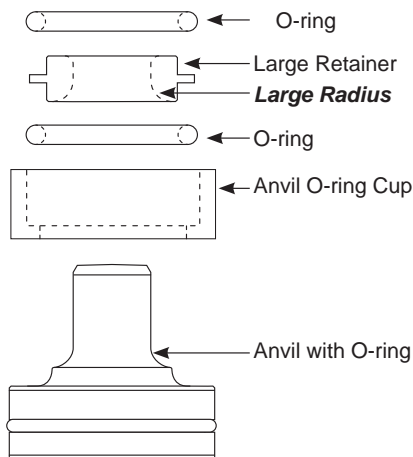

Fig. 16 - Insert o-ring into anvil o-ring cup, then insert large retainer with large radius at bottom towards the anvil, then insert other o-ring.
Lubricate with Rhino® Pro Series Lubricant and assemble the large retainer and the two (2) large retainer o-ring seals in the order shown in **Fig. 16** and assemble into the anvil o-ring cup ensuring the large radius on the large retainer is positioned toward the anvil.